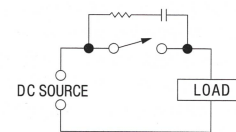

Figure 4 — R-C Suppression (1 Ω / kV;
2. Vacuum switches using an R-C suppression across the contacts can interrupt slightly higher currents with less arcing time, which increases contact life. (See Figure 4.)